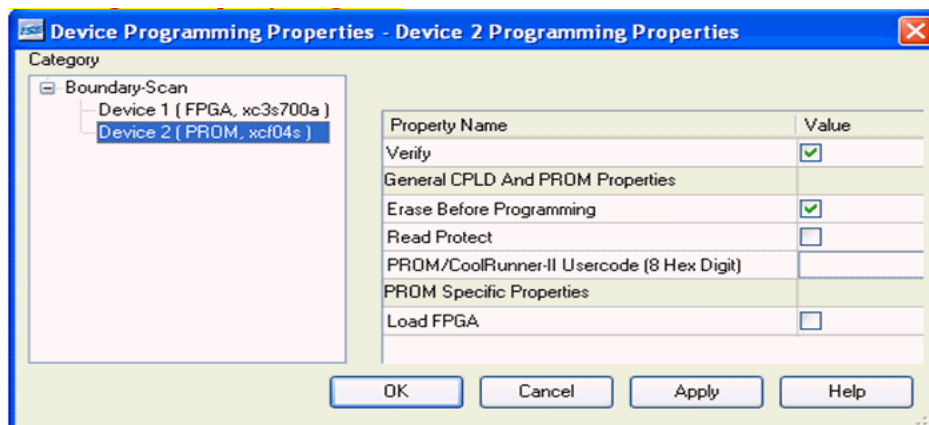

Figure 7-5: Device Programming Options
6. When the Device Programming Properties Dialog Box appears (see Figure 7-5). Select the **Verify** option.